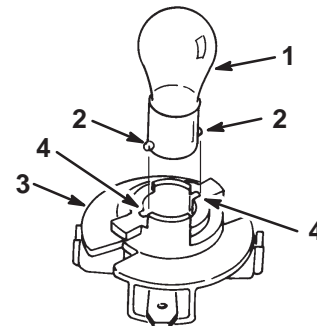

Figure 36
4. Push and rotate the bulb counterclockwise until it stops (approx. 1/4 turn) and remove bulb from the bulb holder (Fig. 36).
1. The bulb has metal pins on the side of its base. Align the pins with the slots in the bulb holder and insert the base into the holder (Fig. 36). Push and rotate the bulb clockwise until it stops.